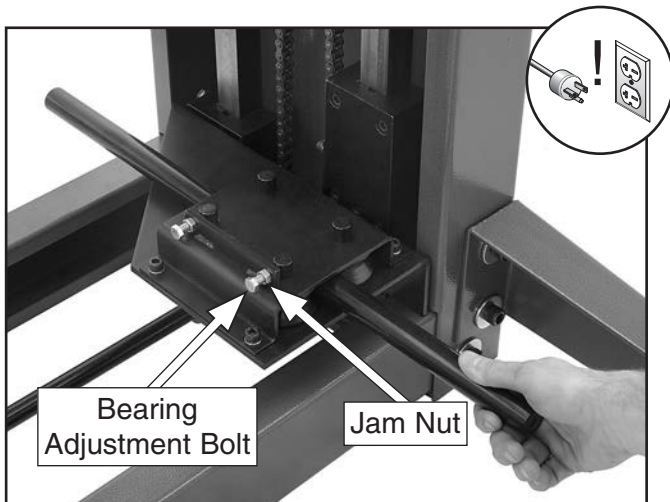

Figure 47. Table bearing adjustment (table removed for clarity).
1. Loosen the jam nuts on the bearing adjustment bolts (**Figure 47**).